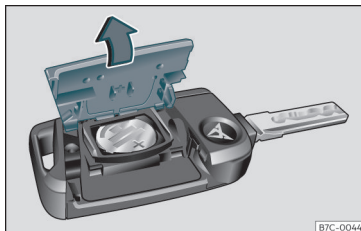

Fig. 67 Vehicle key: opening the battery compartment cover.
- Remove the cover from the back of the vehicle key »» Fig. 67 in the direction of the arrow »» ①.
- Fit the cover as shown »» Fig. 67, pressing it onto the vehicle key casing in the opposite direction to that shown by the arrow until it clicks into place.